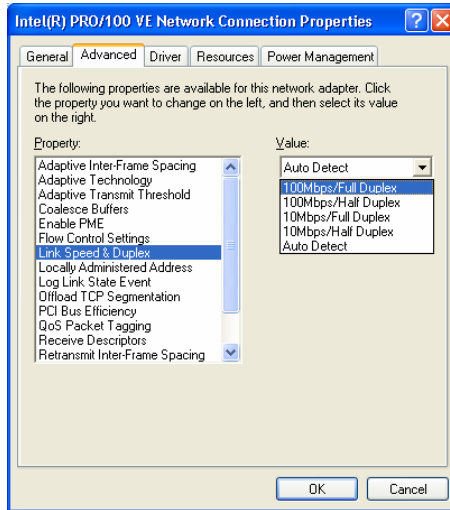

Figure 41: Selecting Manual Link Speed
7. If the connection speed (appearing under Value) is set to Auto Detect, change it to a manual value of, for example, “100Mb Full Duplex” (or less), as illustrated in Figure 41.